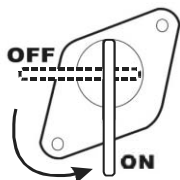

Figure 12- Fuel Valve in the “on” position
4. Turn the fuel valve to the “on” position (see figure 12).